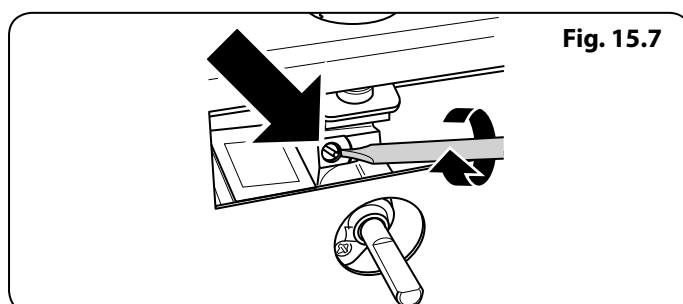

Fig. 15.7
2. Turn the bypass screw on each control clockwise all the way till it stops (**Fig. 15.7**).